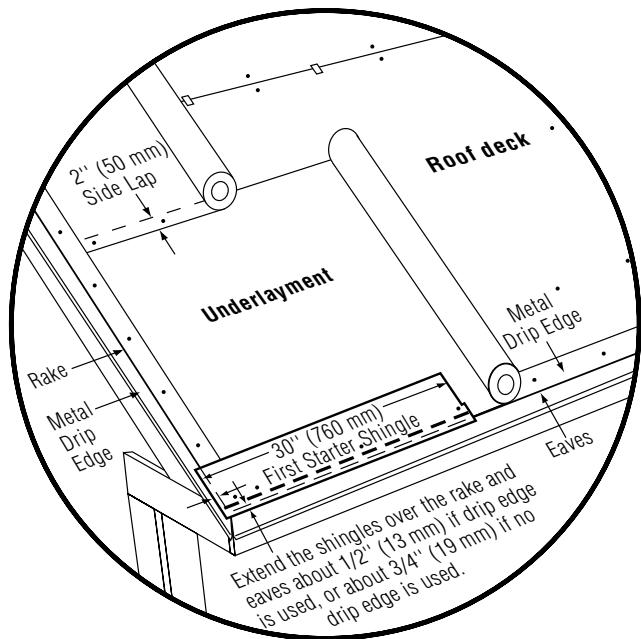

Figure 14-7: Standard slope underlayment starter and drip edge details.
3. Apply the 30" piece to the lower left corner of the roof. Make sure there is  $\frac{1}{2}$ " overhanging rakes and eaves if drip edge is being used. If you are not using drip edge, make the overhang  $\frac{3}{4}$ " (Figure 14-7).
2. Cut 6" off the length of the first starter strip and apply the remaining 30" piece at the lower left corner of the roof. Overhang the rakes and eaves 1/2" if drip edge is being used. If you are not using drip edge, make the overhang 3/4" (Figure 14-7).